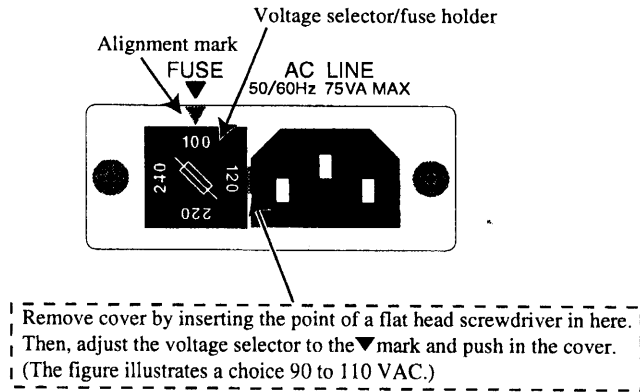

Fig. 1-3 Removing Fuse Holder
2. Remove fuse holder as shown in Fig. 1-3 "Removing Fuse Holder".